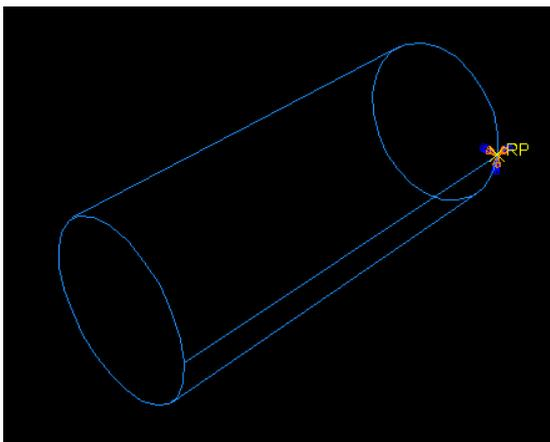

Figure C-41 The pin is constrained.
- A boundary condition called `NoSlip` that constrains all degrees of freedom of the pin while contact is established during the first analysis step. You will modify this boundary condition in the second analysis step (the step in which the load is applied) so that degrees of freedom 1 and 5 are unconstrained. Figure C-41 illustrates this boundary condition applied at the reference point.